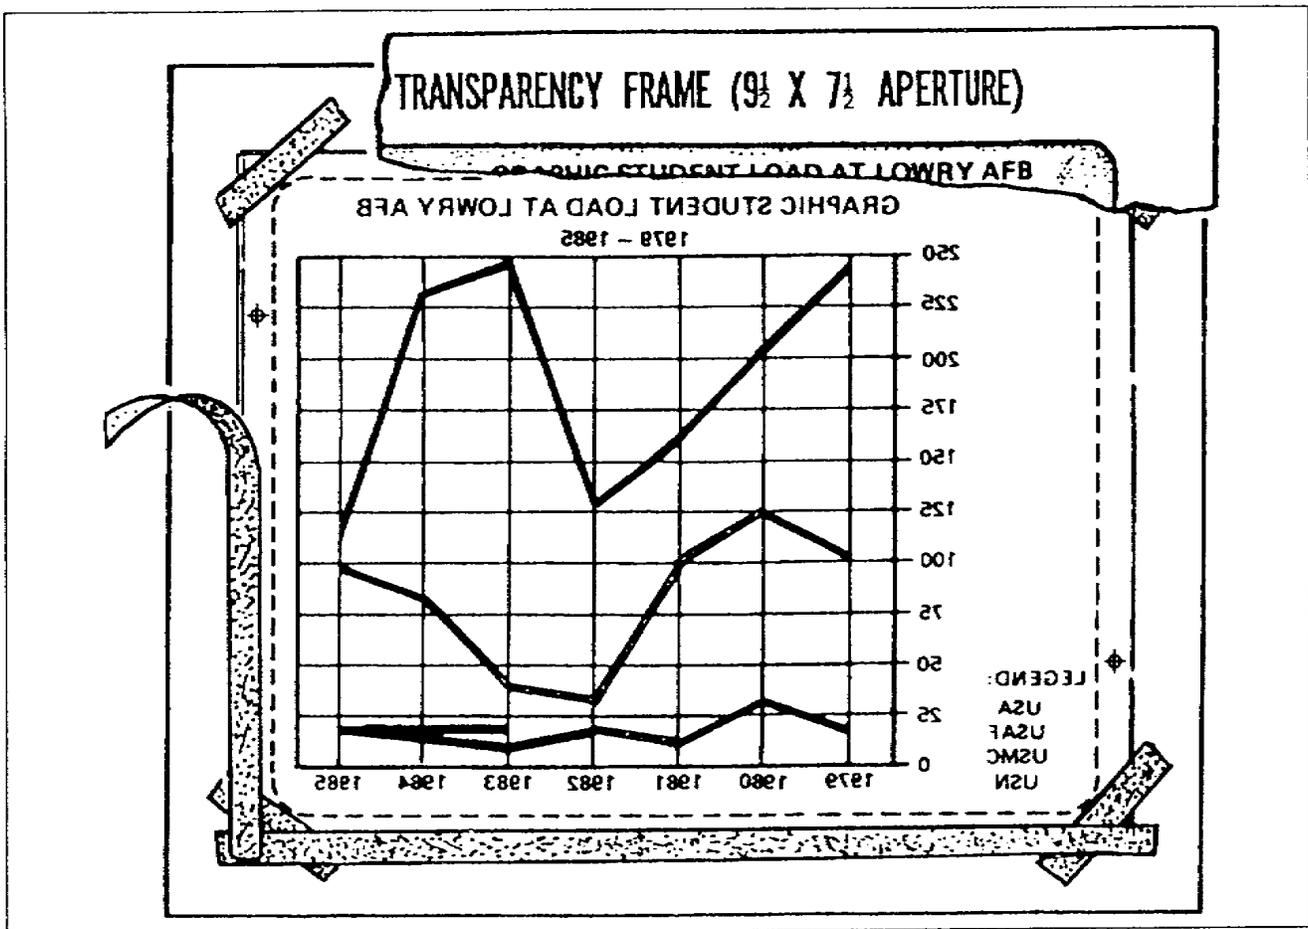

Figure 2-9. Mounting a VGT
c. Attaching Foils to Mounts. Regardless of the type of mount that you use, the easiest way to attach your foils to the mount is with masking or plastic tape. Avoid using cellophane tape, as it becomes brittle and shrinks with age. Tape all four sides of the foil to the underside of the mount. Taping the foils to the back provides a more professional looking job, and assures a flat projection area. Figure 2-9 shows the proper method for mounting a foil in the frame.